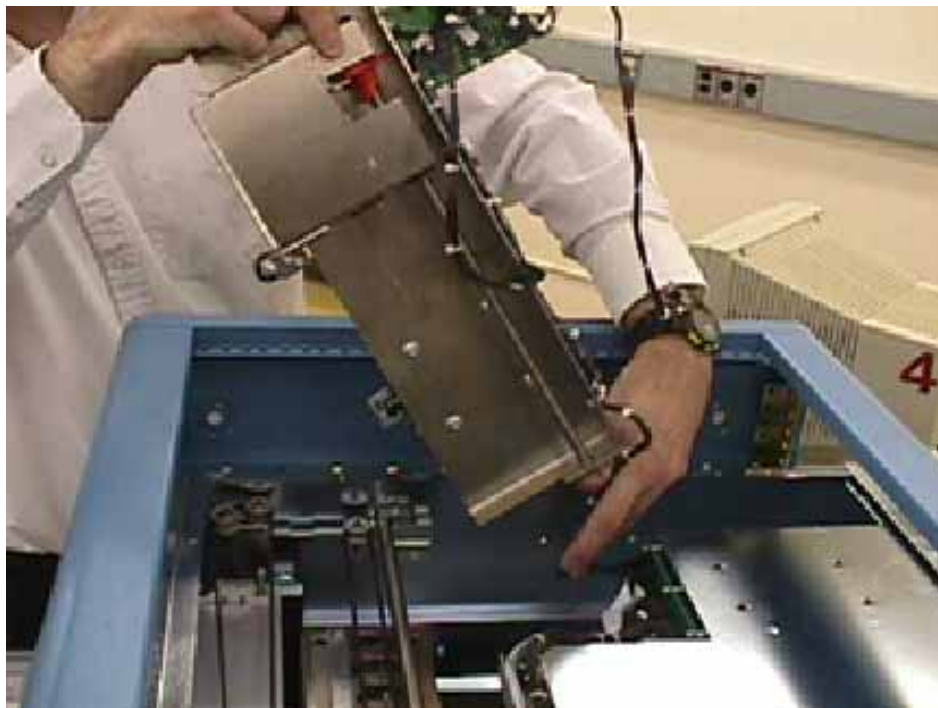

Figure 21. PassThru Installation
3. With both units partially extended from the rack, lower the PassThru mechanism into the CLIENT and MASTER machines as shown in **Figure 21**.